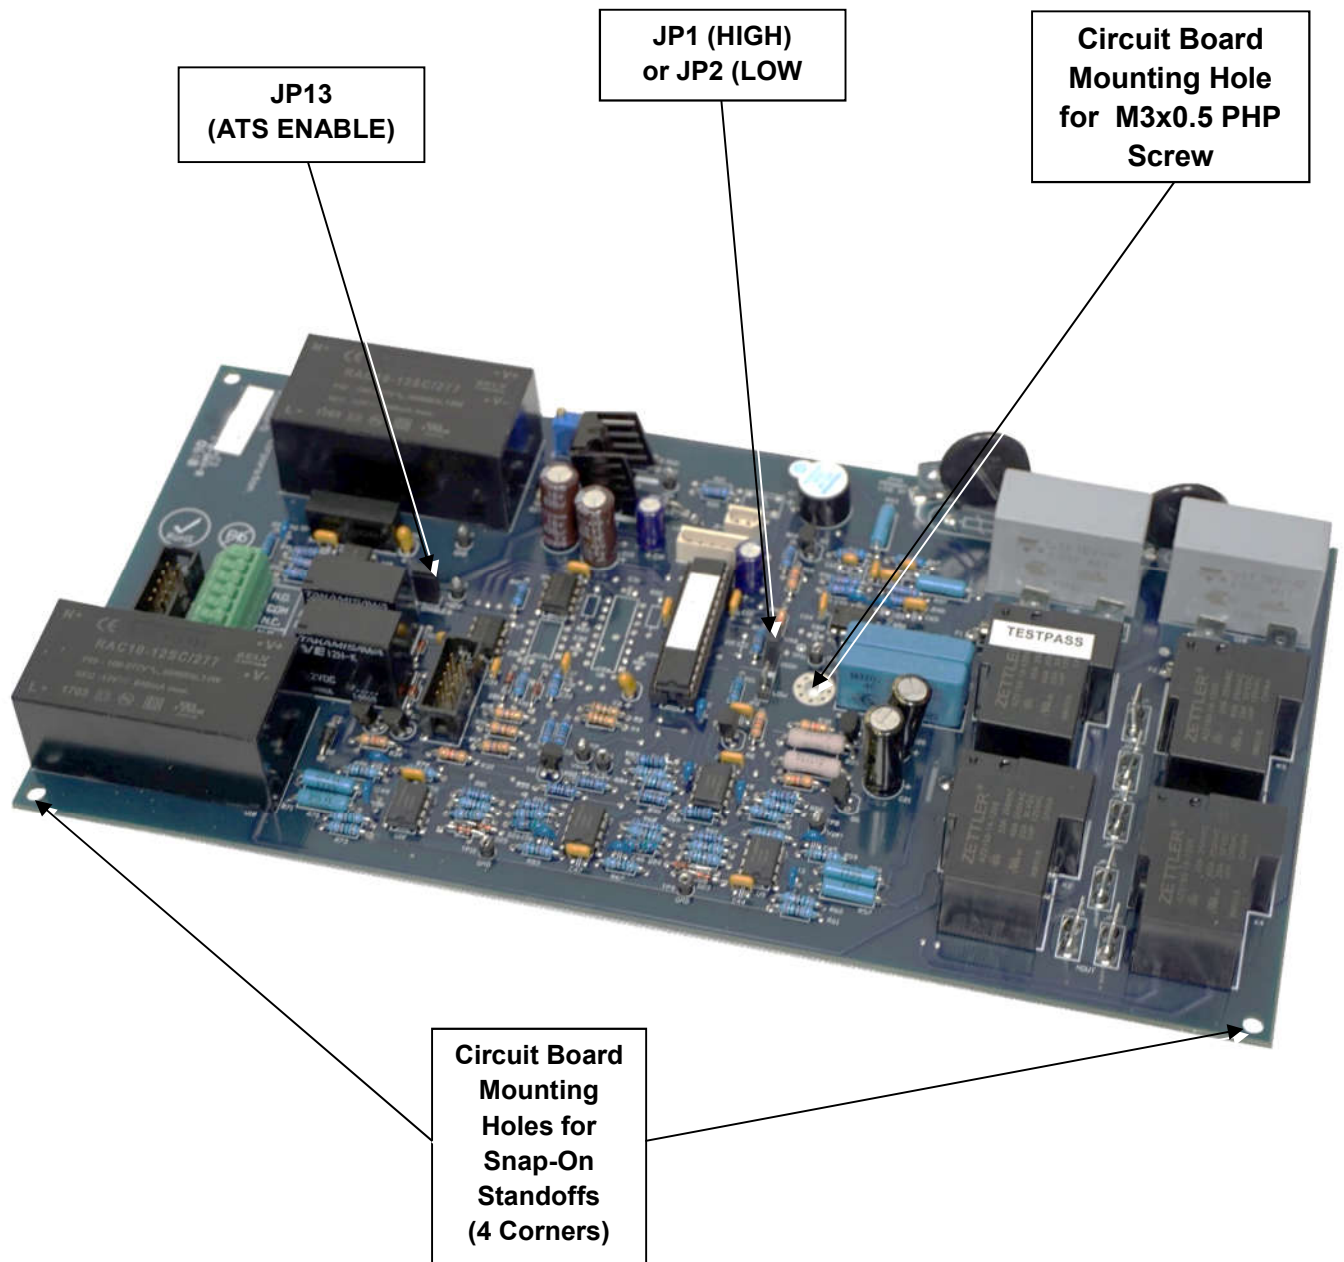

Figure 8: PZ00120-5 Main Control Circuit Board Assembly for ATS-1000-2xxx,-3xxx,-4xxx,-5xxx,-6xxx and -7xxx models
3.44 Locate the jumper at JP1 (HIGH) or JP2 (LOW). See figure 8 or 9.